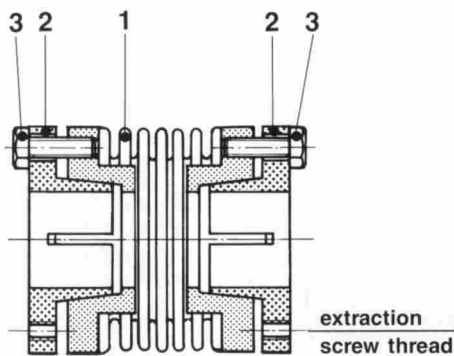

Fig. 5 Type 931.311
For dismantling there are two extraction tapped holes in the taper bushings (2) (four for size 5) (figure 5). When all hexagon head cap screws (3) are unscrewed, the taper bushings (2) with the hexagon head cap screws (3) can be pushed out off the hubs of the steel bellows (1).